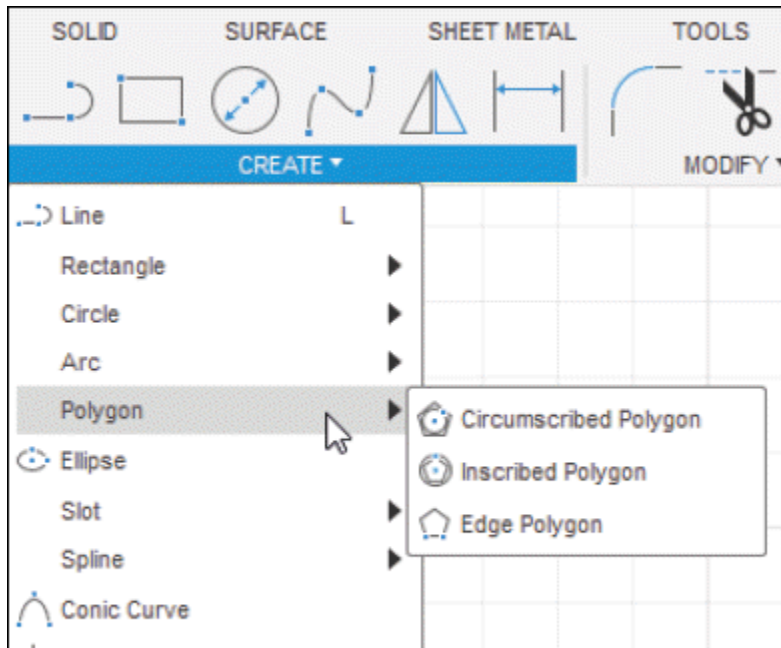

Figure-25. Polygon cascading menu
Inscribed Polygon, and **Edge Polygon**; refer to Figure-25. The tools to create the polygons are discussed next.
- Click on the **Circumscribed Polygon** tool of **Polygon** cascading menu from **CREATE** drop-down; refer to Figure-25. You will be asked to specify center point of the reference circle.